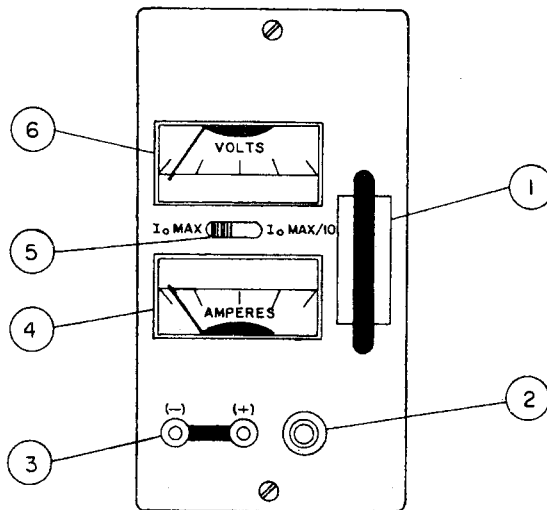

FIG. 2-3 TERMINATIONS AND CONTROLS, FRONT PANEL.
- a) FRONT PANEL: Refer to FIG. 2-3 and TABLE 2-2.
**NOTE: 3)** REFER TO SECTION II (FIG. 2-3) FOR THE LOCATION OF ALL OPERATING CONTROLS.